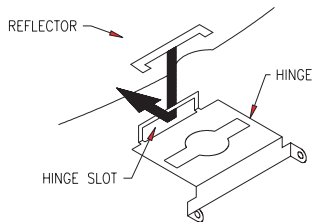

FIGURE 1
2. Open luminaire door by loosening the (4) captive door screws.
- B. Lift slightly and push rearwards towards hinge in order to disengage reflector tab from hinge slot. Remove reflector. See Figure 1.